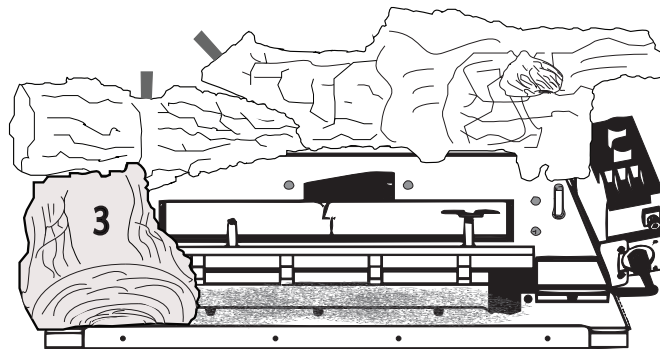

Figure 6.22 - Log #3 Placement
4. Place Log #3 in the lower left area of the burner assembly with the cut out wrapping around the grate and the front of the log up against the front lip of the burner assembly. See Figure 6.22.